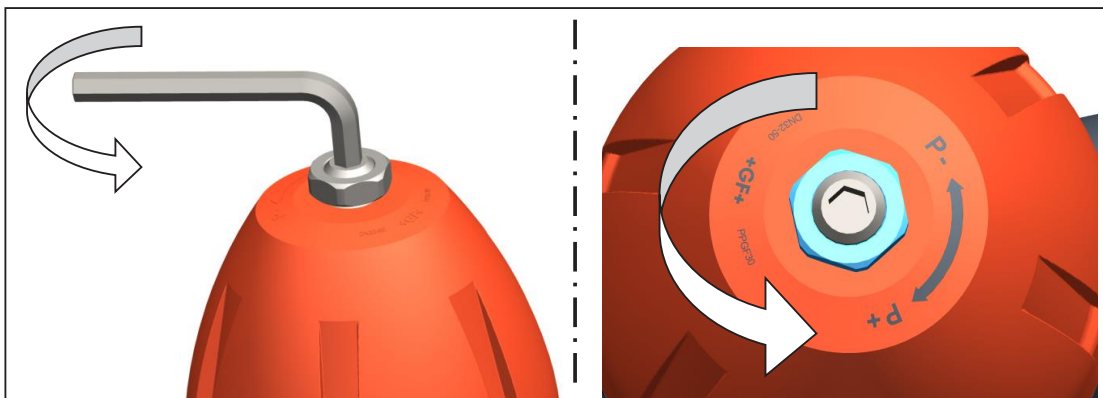

Fig. 5
- ▶ In order to decrease the set point value: Relax the spring. To do so, turn the spindle counterclockwise, see Fig. 5